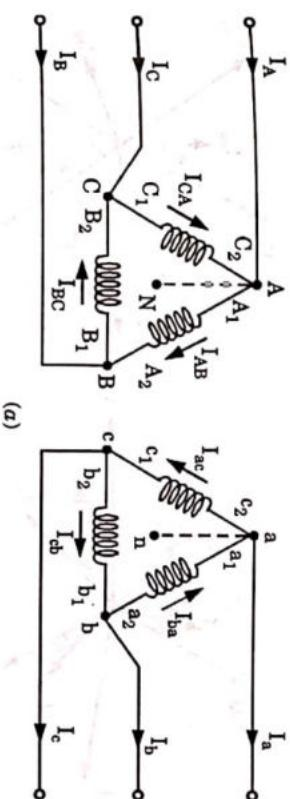

Fig. 3.20.1. Delta-Delta connection of transformer ( $0^\circ$  phase shift).
- Fig. 3.20.1(a) shows the  $\Delta-\Delta$  connection of three identical single-phase transformers or three identical windings on each of the primary and secondary sides of the  $3\phi$  transformer.
- Fig. 3.20.1(b) shows the phasor diagrams for lagging power factor  $\cos \phi$ . The secondary line-to-line voltage  $V_{AB}$ ,  $V_{BC}$  and  $V_{CA}$  with voltage ratios equal to the turns ratio :
- It is to be noted that in Fig. 3.20.1 each winding is drawn along the line of the phasor of its induced voltage.